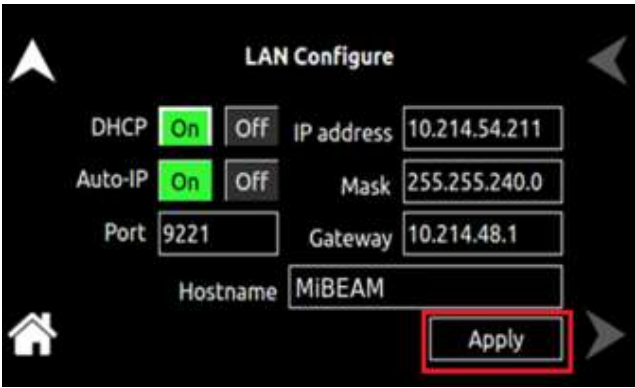
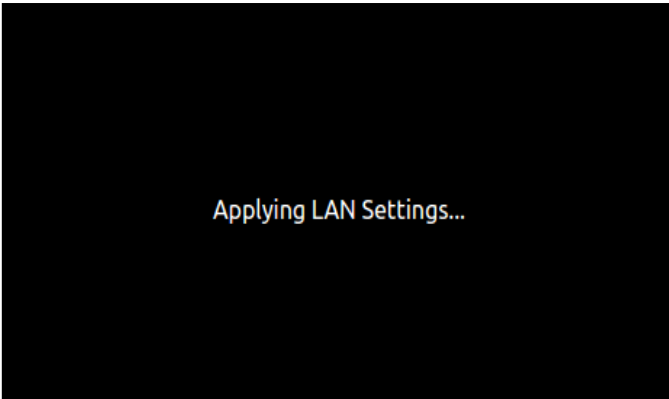

Figure 11-129. LAN Screen – Apply
Figure 11-130. LAN Screen - Applying LAN Settings
- **Apply:** Applies the LAN settings to the supply. Refer to Figure 11-129 and Figure 11-130.